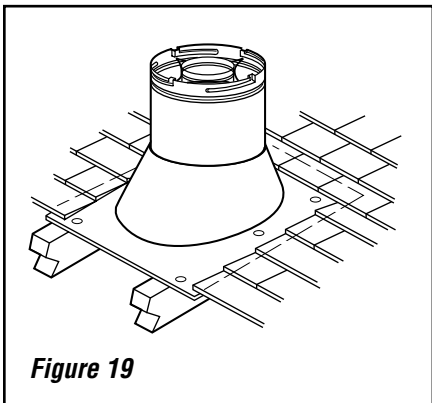

Figure 19
I. Install the roof flashing - Extend the vent sections through the roof structure. Install the roof flashing over the vent section and position such that the vent column rises vertically (use carpenter's level) (**Figure 19**). Nail along perimeter to secure flashing or adjust roofing to overlap the flashing edges at top and sides only and trim where necessary. Seal the top and both sides of the flashing with waterproof caulking.